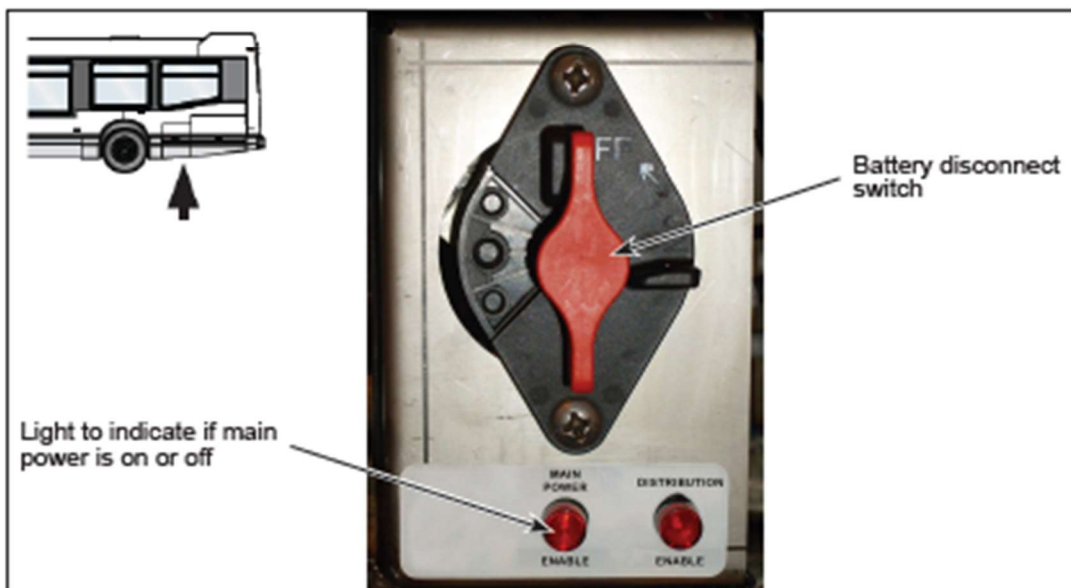

Figure 2 - Typical Battery Disconnect Switch
- 1.4. Set the battery disconnect switch in the battery compartment to the OFF position (see Figure 2).